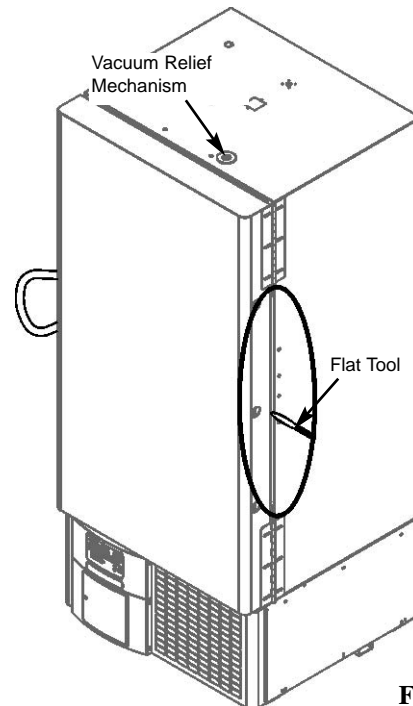
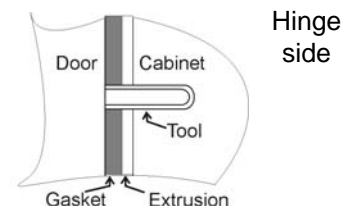

Figure 5-2
Figure 5-3
- Press on the vacuum relief mechanism (figure 5-2). If there is a noticeable sound of air exchange, then continue to hold down on the mechanism until the door opens. If the door fails to open, continue to the next step.
- On the HINGED side of freezer (figure 5-2), slide part number 402058 tool or a non-metallic flat object such as a ruler, tongue depressor or plastic putty knife carefully between the door gasket and door until only the end of the tool handle is showing (Figure 5-3). There will be a noticeable sound of air exchange that could last a few minutes.